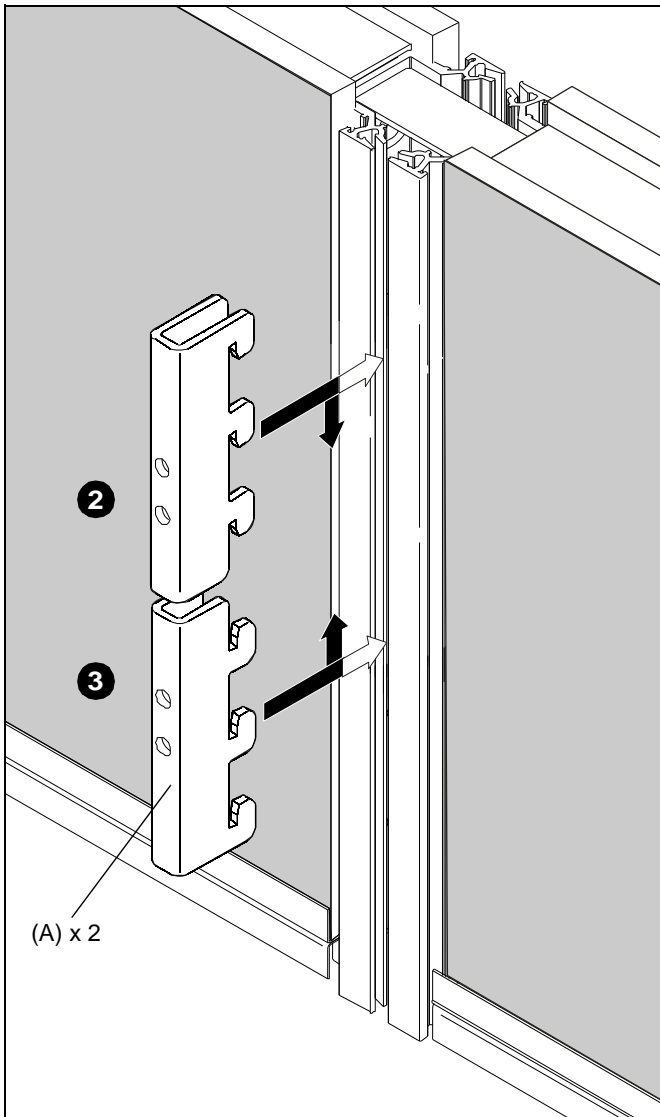

Figure 1
2. Orient *Upper* wall bracket (A) as shown in figure 1 below, and install four tabs on *Upper* wall bracket into four slots in wall support.
3. Orient *Lower* wall bracket (A) as shown in figure 1 below, and install four tabs on *Lower* wall bracket into four slots in wall support.